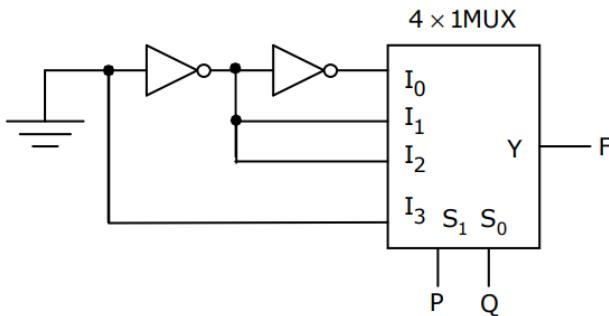

Fig. 4.24
49. Find the logic function implemented by the circuit given below in Fig. 4.24.